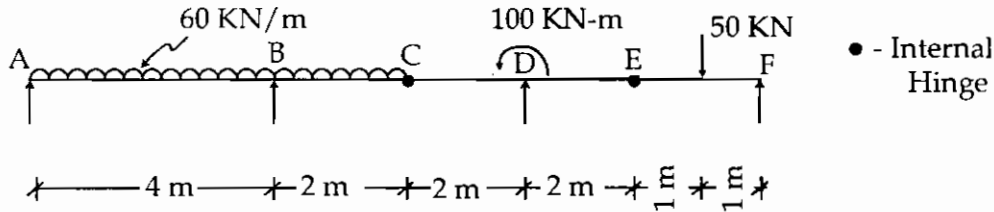

Figure 4 [ Q. No. 2 (B) ]
- (B) Draw the BMD and SFD for the compound beam shown in Figure 4. Showing salient values. 10